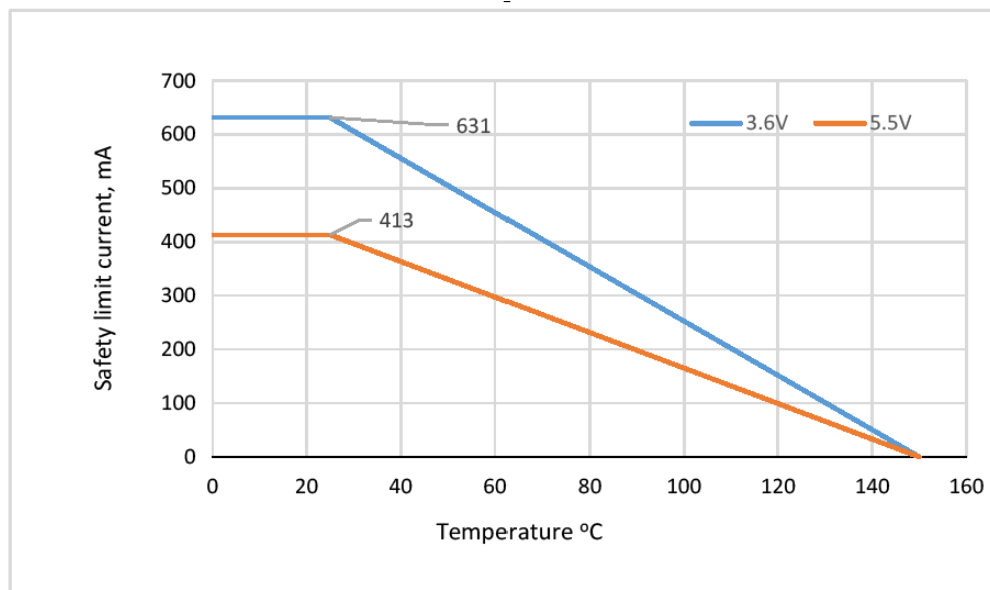

Figure 5.5. WB SOIC-20/24 Thermal Derating Curve (Dependence of Safety Limiting Values)
1. Maximum value allowed in the event of a failure. Refer to the thermal derating curve in Figure 5.5 WB SOIC-20/24 Thermal Derating Curve \(Dependence of Safety Limiting Values\) on page 35.